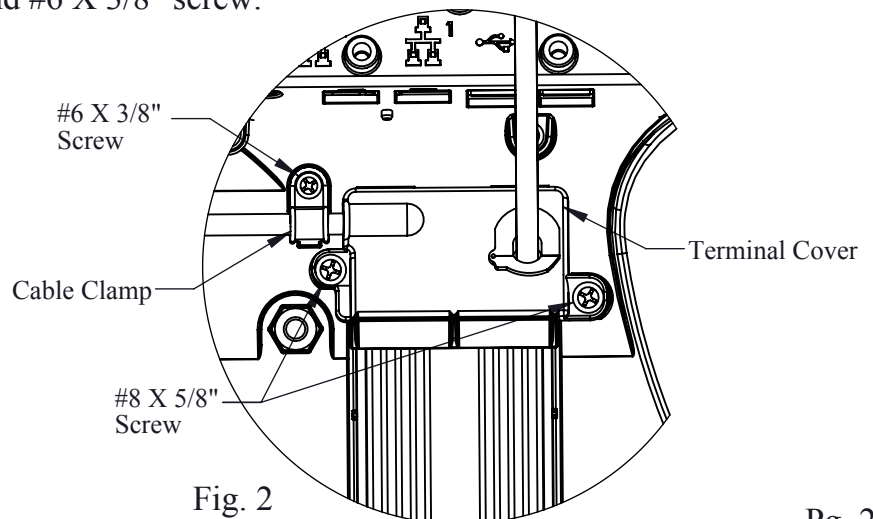

Fig. 2
8. With connectors and wires placed into space provided attach Terminal Cover to dock using 2 #8 X 5/8" screws. Terminal Cover should overlap edge of Power Supply and secure it in pocket when the screws are tightened (Fig. 2).